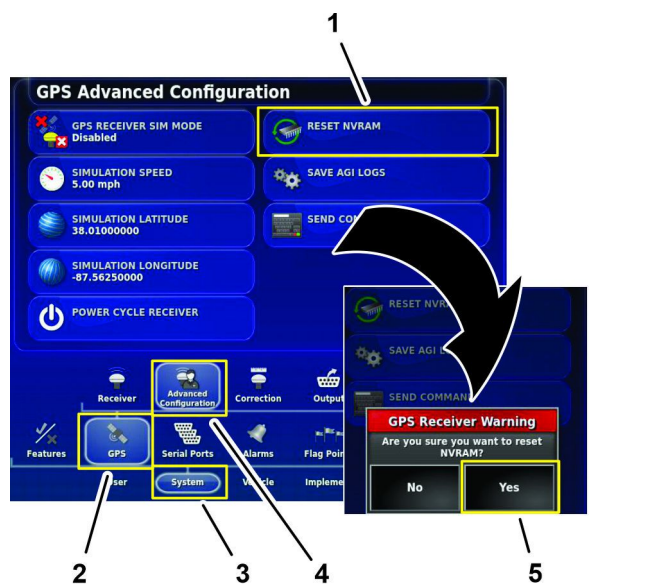

Figure 250
- 1. In the setup screen, press the SYSTEM icon, GPS icon, and ADVANCED CONFIGURATION icon (Figure 250).
- 2. In the GPS Advanced Configuration screen, press the RESET NVRAM icon (Figure 250).
- 3. In the GPS receive warning dialog box, press the YES icon (Figure 250).